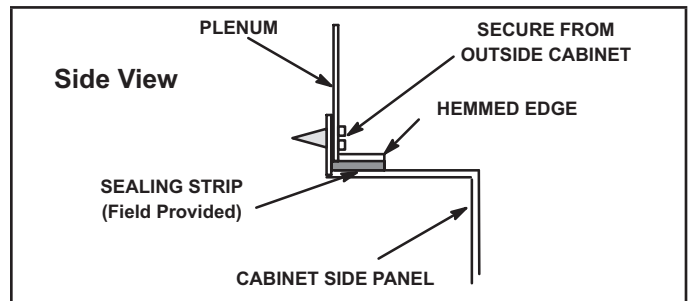

FIGURE 10
- 1 - Bottom edge of plenum should be flanged with a hemmed edge (See figure 10).